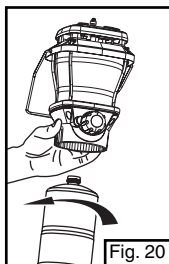

Fig. 20
- Remove propane cylinder from lantern. (Fig. 20)